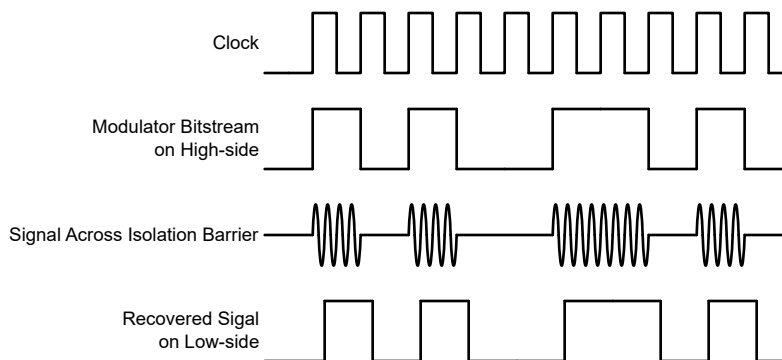

图 7-3. OOK-Based Modulation Scheme
The AMC1306M05-Q1 uses an on-off keying (OOK) modulation scheme, as shown in 图 7-3, to transmit the modulator output bitstream across the SiO2-based isolation barrier. The transmit driver (TX) shown in the *Functional Block Diagram* transmits an internally generated, high-frequency carrier across the isolation barrier to represent a digital *one* and does not send a signal to represent a digital *zero*. The nominal frequency of the carrier used inside the AMC1306M05-Q1 is 480 MHz.